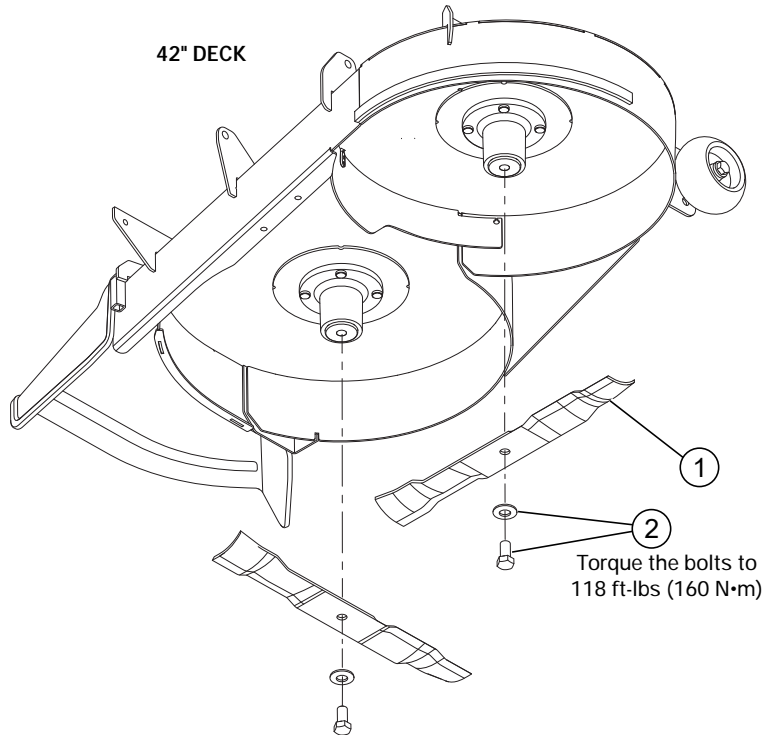

FIG. 4
7. Attach the mulching blades to the spindles using the existing blade hardware. Torque the bolts to 118 ft-lbs (160 N•m). Fig. 4